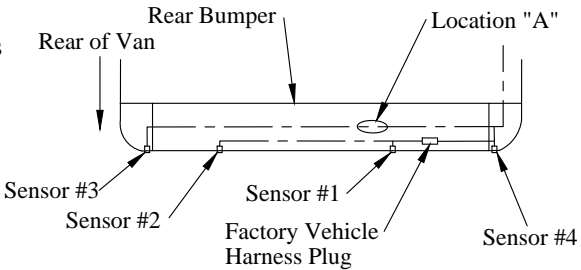

Figure 2: Factory vehicle wire harness.
2. **Unplug** and **Remove** wire harness for sensors #1 and #2 from vehicle harness in bumper (Figure 2).
3. **Remove** and **Save** sensors #1, #2, and #3 from vehicle harness (Figure 2).
1. **Feed** the vehicle plug end of the new sensor harness through the secondary sensor bar mounting brackets. Start at the van center and stop at the factory vehicle harness plug (Figures 2 and 7).
6. **Follow** vehicle harness from sensor #3 until you reach location "A", near sensor #1 and **Cut** the harness. Leave enough length to complete the next step (Figure 2).